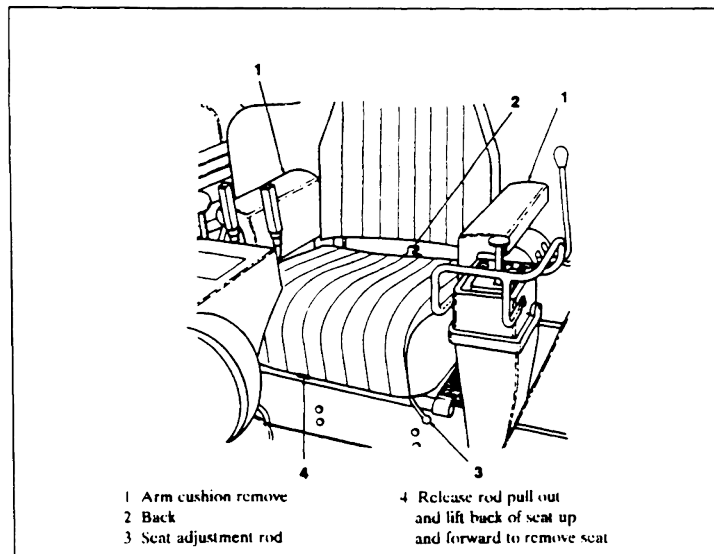

FIGURE 14. SEAT REMOVAL
Step 3. Remove the seat (Figure 14).